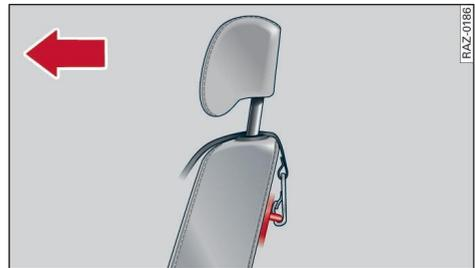

Fig. 58 Rear backrest: Hooking strap into top tether anchorage
- ▶ Hook the strap into the top tether anchorage ⇒ *Fig. 58*. When doing so, make sure that the belt is not twisted and that it is not on any sharp edges.